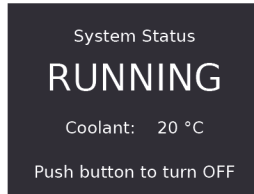
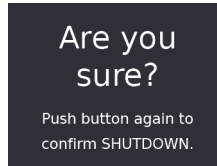

Figure 4-8 Running screen
Figure 4-10 Confirmation screen
- Normal Cooler operation begins when the operating flow is achieved. The Running screen is displayed (see Figure 4-8 on page 144).
1. Press the **MODE** button once. A screen confirming Cooler shutdown appears (see Figure 4-10 on page 145), and the indicator blinks yellow. If the **MODE** button is not pressed a 2nd time within 5 seconds, the screen reverts to **Running** status (see Figure 4-8 on page 144).